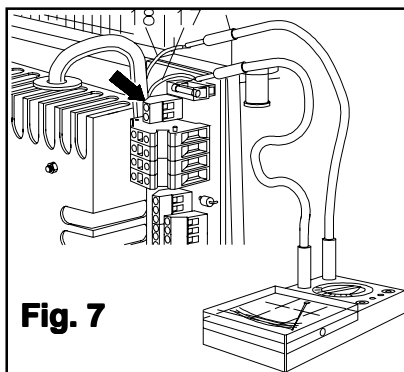

Fig. 7
- Scollegare dalla morsettiera i due cavi (NERI) provenienti dallo statore ai morsetti N. 17 e N. 18 (Fig. 7).
- Disconnect from the terminal board, the two wires (colour: Black), connecting terminals No. 17 and 18 (Fig. 7) to the stator.